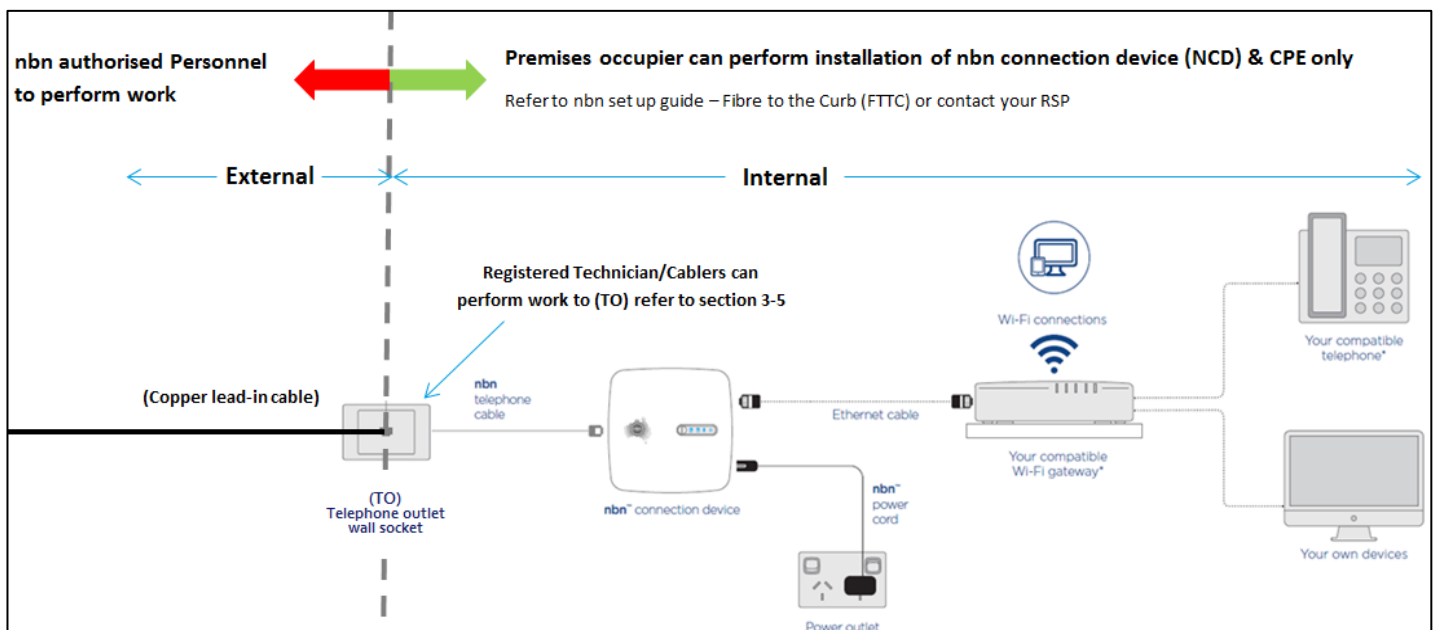

Figure 24. FTTC Network
- Replace, relocate or otherwise alter within a premise for renovation, demolition or relocation of the building/premises subject to the boundaries identified in Figure 24 below, and with reference to section 3 for details on the Network Boundary Point (NBP)